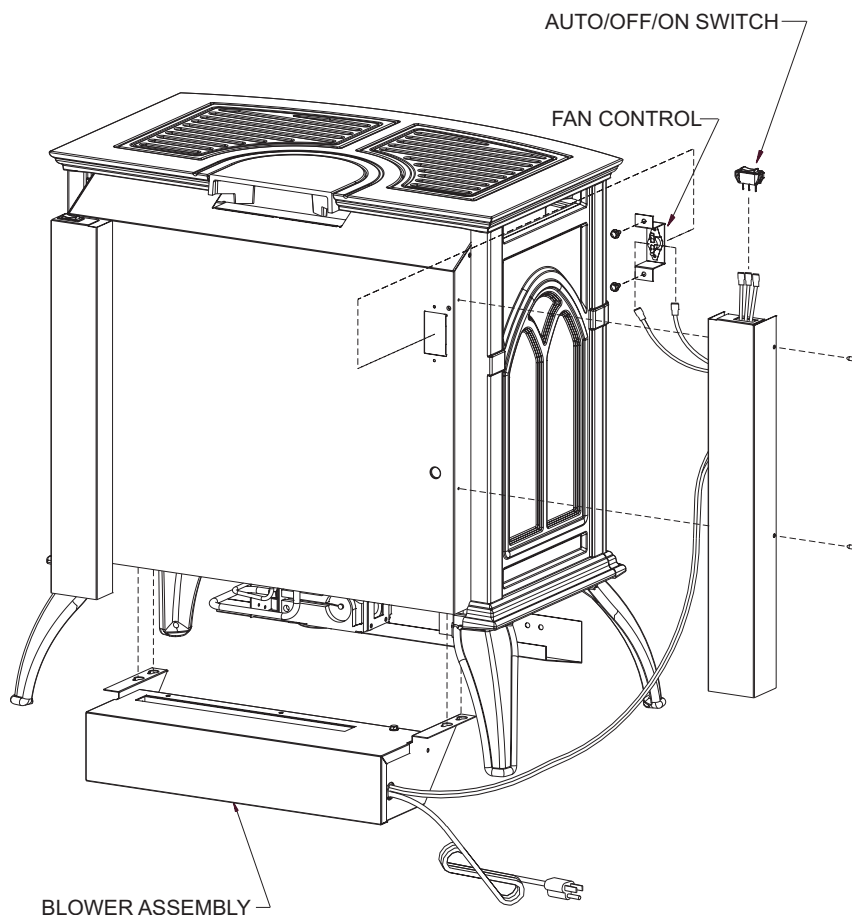

Figure 23
1. Loosen, but do not remove, four (4) hex-head screws located on the exterior, bottom of the appliance.
2. Position the blower assembly at the rear of the appliance. The blower assembly has four (4) keyholes for attachment to the exterior, bottom of the appliance.
3. Place the large diameter holes in the keyholes over and behind the four (4) hex-head screws that were loosened in Step 1. Push inward on the blower assembly to lock the keyholes into position behind the screws. Tighten four (4) hex-head screws to secure blower assembly to exterior, bottom of the appliance.
4. Remove wire channel-left from appliance by removing (2) 10 x 1/2" screws on left side of the appliance.
5. Bend the fan control tab, located on the right side of the back of the unit, inward toward the unit. See Figure 23. Be sure tab is bent at least 90 degrees to allow fan control bracket to slide into slot.
12. Attach fan control with bracket onto rear cover with two (2) 10 x 1/2" screws provided in hardware package.
14. Attach wire channel to channel divider with two (2) 10 x 1/2" screws from Step 4.